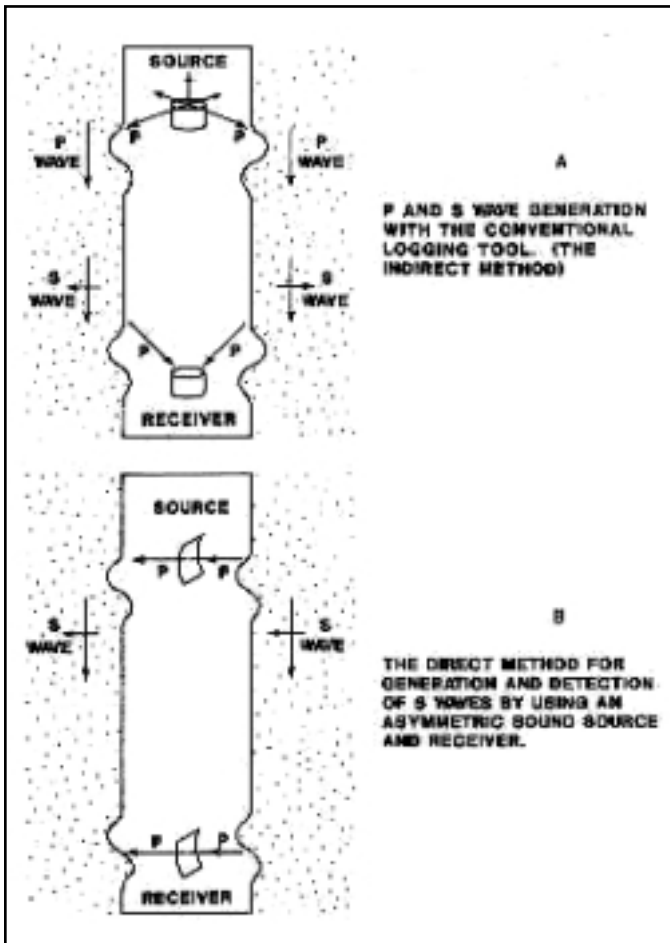

Figure 2: Shear wave propagation from monopole source (upper) and dipole source (lower) (from Zemanek et al, 1991)
**2. Dipole sources** and receivers are a newer invention. They emit energy along a single direction instead of radially. These have been called asymmetric or non-axisymmetric sources. They can generate a compressional wave in the formation, not usually detected except in large boreholes or very slow formations. They generate a strong shear wave in both slow and fast formations. This wave is called a flexural or bender wave and travels on the borehole wall (Figure 2).